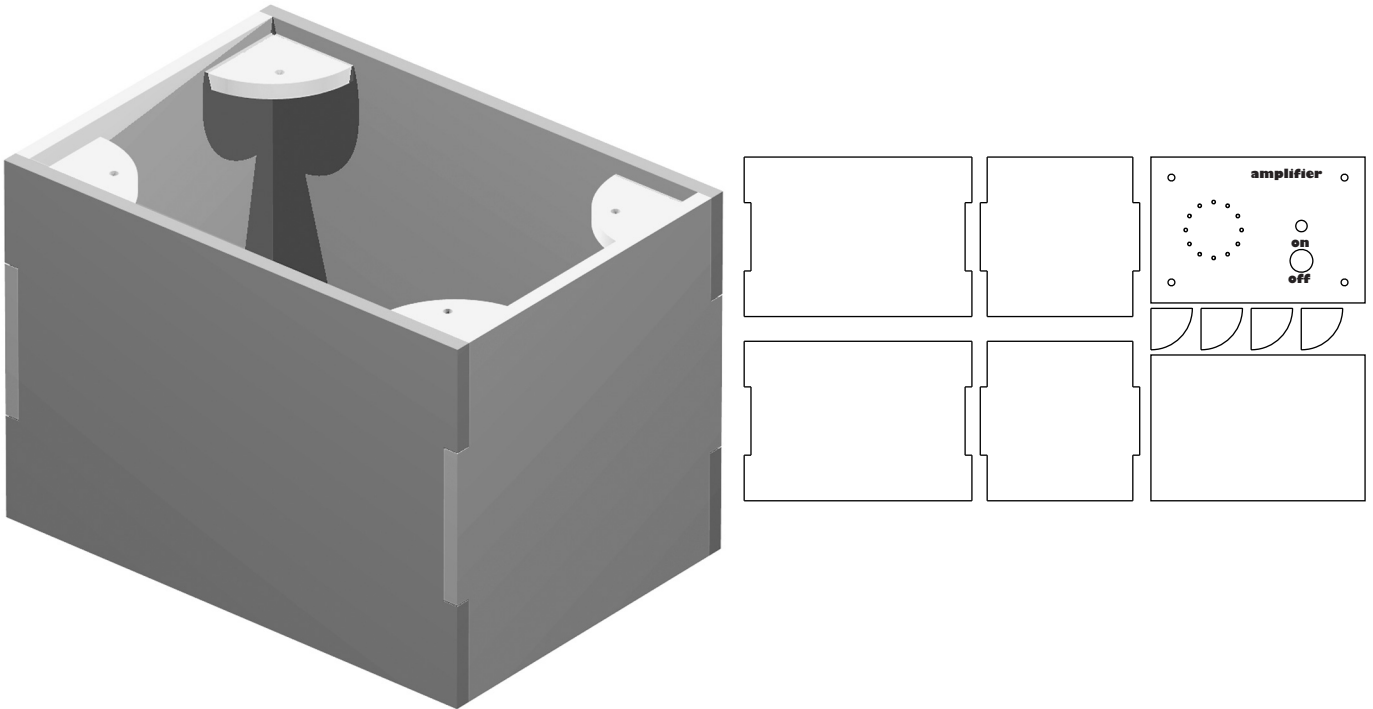

Fig. 6
- 3 (a) Fig. 6 shows two CAD views of a box to house a small amplifier. The parts of the box are to be laser cut from acrylic.
- (b) An alternative method of producing a project case is to use vacuum forming. Give **two** advantages of vacuum forming compared to the method shown in Fig. 6.